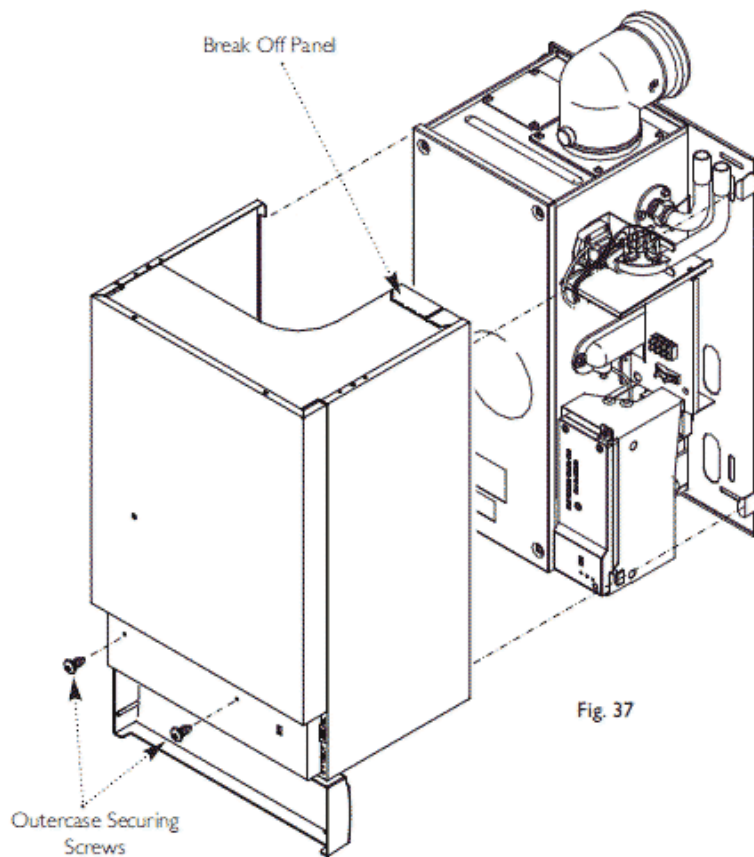

Fig. 37
1. Position the outercase over the boiler engaging the lugs in the side flanges over the hooks on the wall plate. Break off top or bottom panel as required to accommodate pipework runs (Fig.37).
2. Using the two screws supplied in the kit, secure the outercase to the combustion box (Fig. 37).